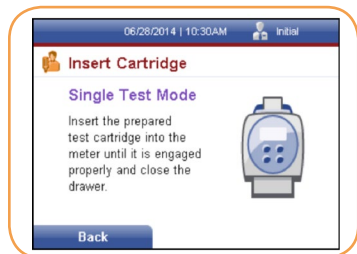

FIGURE 38
2. Enter the Patient ID using the numeric keys, then select the right soft key. The Insert Cartridge screen will be displayed (Figure 38).